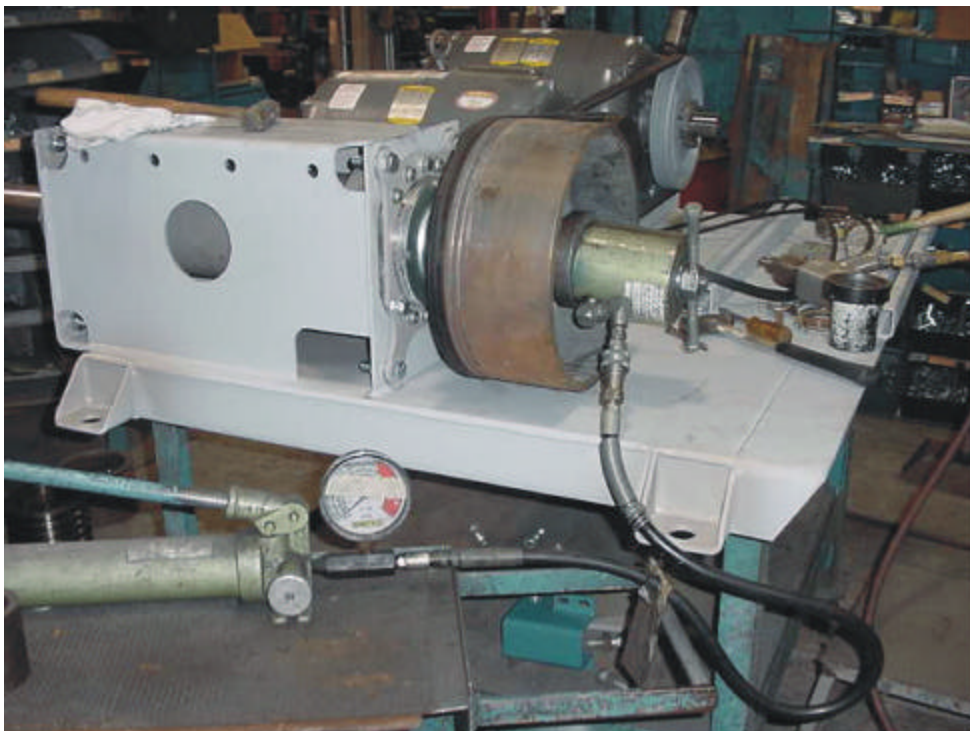

Figure 5
8) How the components look installed. Figure 5